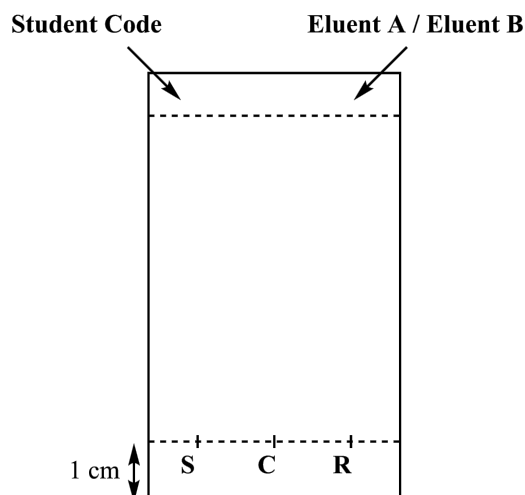

Figure 3. TLC plate preparation
3. **Prepare your TLC plate.** Use a pencil to **draw** carefully the start line (1 cm above the bottom of the plate) and **mark** the positions in order to spot the 3 samples. **Label** them **S** (Starting material), **C** (Crude product) and **R** (Recrystallized product), as shown in Figure 3. On the top left of the plate, **write** your **Student Code**. On the top right of the plate, **write** the eluent you use (first **Eluent A**, then **Eluent B**). **Spot** the three samples on the plate, using capillary spotters.